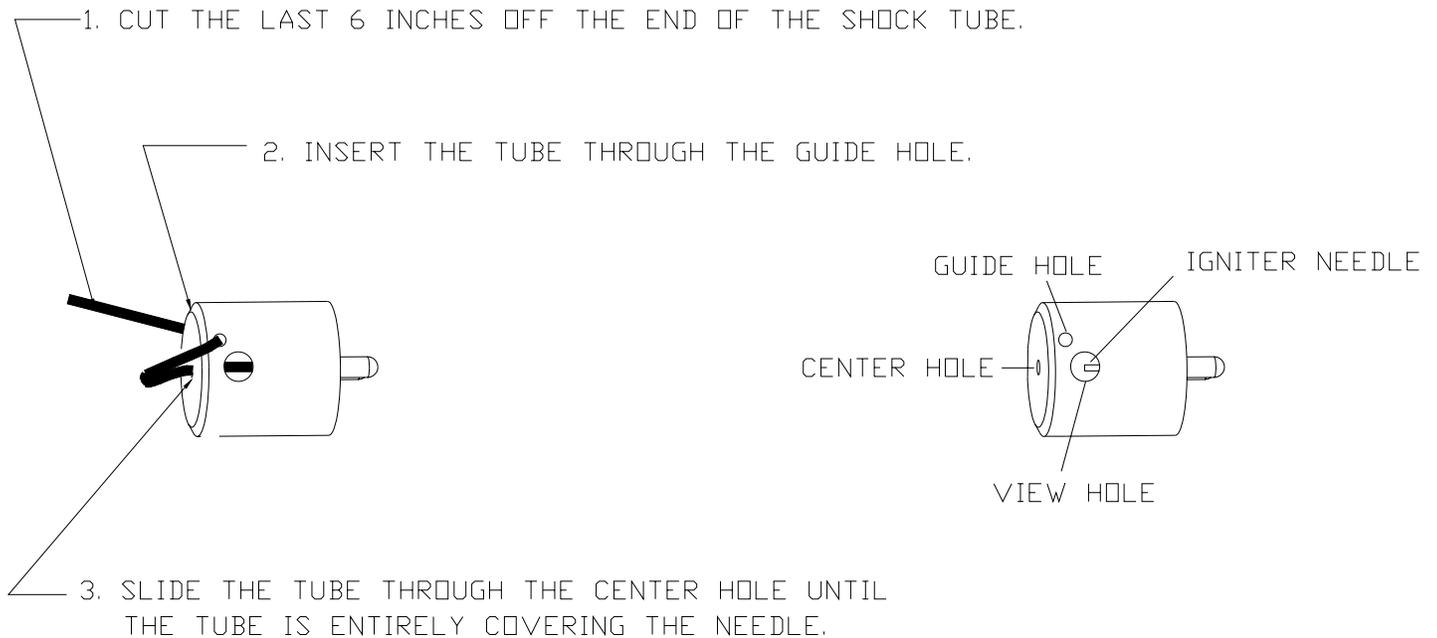

Figure 2-5 Shock Tube Igniter Tip
2.6.2. Figure 2-5. Shows the installation of the shock tube onto the igniter tip when preparing for use. Take care when handling the shock tube to prevent the incursion of debris or moisture into the tube. Keep open tube ends capped except during preparation for use. Keep the tip needle clean and dry. Replace the tip every 200 shots or if misfiring occurs.
2. Insert the shock tube through the guide hole on the tip as shown in Figure 2-5. The guide hole secures the tube to the tip and prevents pulling out.